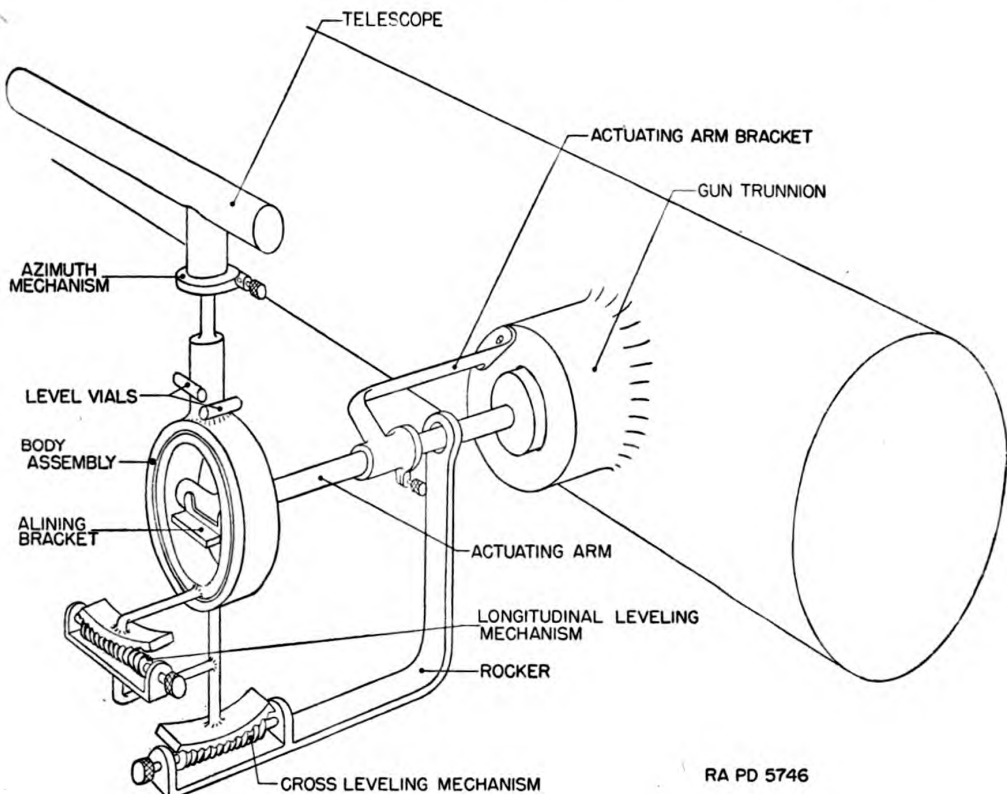

FIGURE 2.—Telescope mount M25—schematic diagram.
2. **Characteristics.**—*a.* The telescope mount M25 (fig. 1) is of the azimuth compensating type. It corrects the error in azimuth resulting from elevation of the gun with trunnions out of level. The various motions of this telescope mount with respect to the gun carriage and functional parts of the telescope mount are shown in figures 2, 6, 7,
a. The cross-leveling mechanism is contained in the cross level worm housing. When the cross-leveling knob is rotated, the mount tilts about the pivot in the mount-actuating arm assembly (fig. 2). The cross-leveled position is indicated on the cross level vial. Stops limit the tilt of the telescope mount.
b. The elevating mechanism (fig. 1) is housed in the telescope mount body and is actuated by the elevating worm. (This is often referred to as the longitudinal-leveling mechanism.) The worm meshes with the teeth on the gear assembly (fig. 2). When the elevating worm knob is rotated, the body assembly and rocker rotate about the actuating arm. The telescope socket is secured to the telescope body assembly and tilts either forward or backward as the elevating knob assembly is rotated. A longitudinal level indicates the horizontal datum plane. An elevation scale with index is on the left side of the instrument. The elevation scale is graduated in 100-mil divisions from 0 to 1,100 mils, the zero graduation indicating "normal." A micrometer is on the elevation worm shaft. Provision is made for adjusting the elevation scale and the elevation micrometer. An aligning bracket (fig. 1) is screwed to the elevating gear to place the pivot on the end of the actuating arm parallel to the axis of the gun.